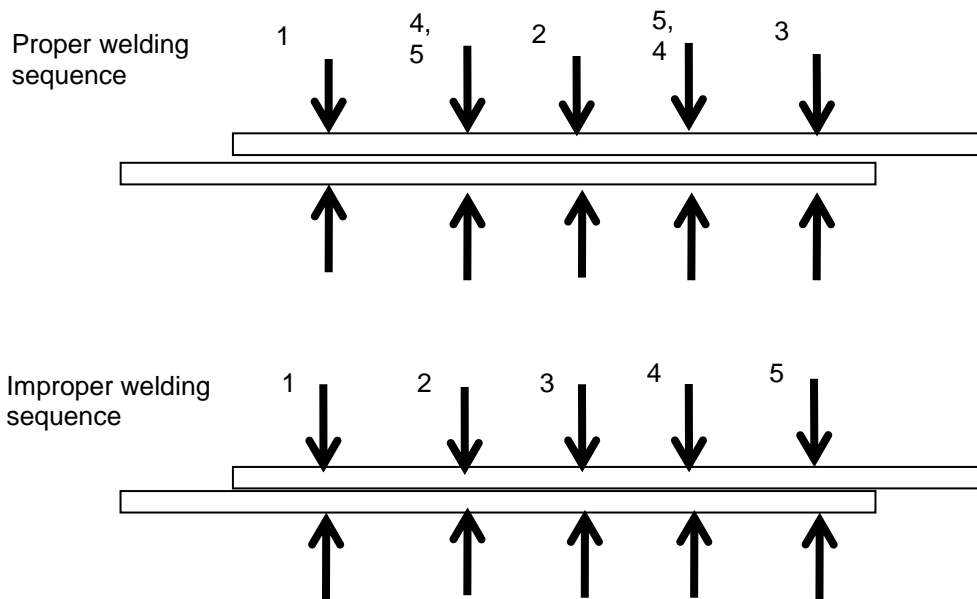

Figure 1: Proper and improper welding sequence
Passage 5 and Figure 1 below are taken from instructions about squeeze-type resistance spot welding. Together they make the directions clear to the reader.
*Spotting sequence:* Do not spot continuously in one direction only (See Figure 1). This method results in weak welding because of the shunt effect of the current. If the welding tips become too hot, the tips will change colour. If this occurs, stop welding and let them cool. Note: It is important memorize this welding sequence.
When answering questions about sequence, whether in written material or in diagrams, go back through the passage. Find the appropriate place and re-read each step. Re-examine the diagram carefully. You may have to trace the steps with your finger while your eyes move back and forth between diagram and passage. You might have to read the section several times to make sure you have the correct match. In some cases, there may be steps that are almost the same. But, as shown in **Figure 1**, “almost the same” usually won't yield correct results.